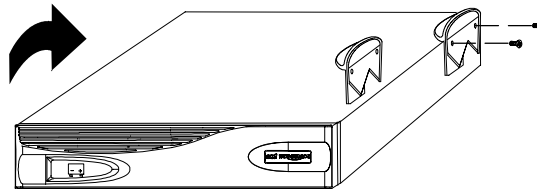

Figure 9. Installing EBM Pedestals
6. Place the EBM cabinet upside down so that the right end of the unit is accessible (see Figure 9).